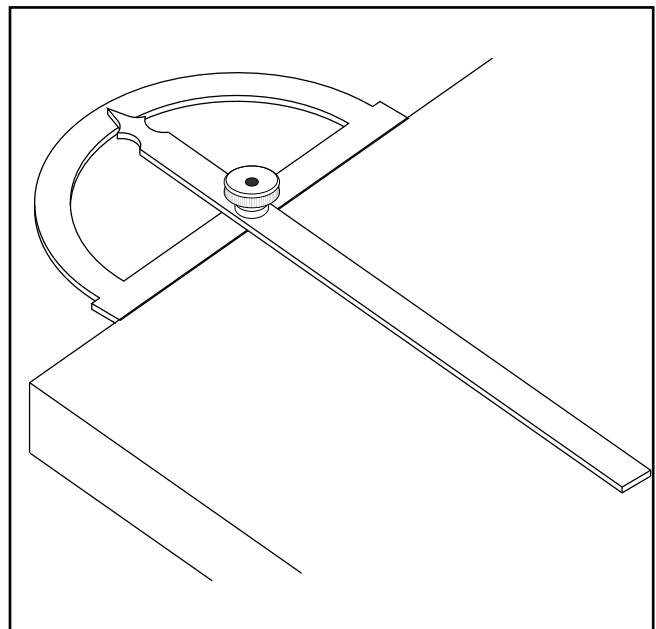

Figure 2. Protractor in use.
2. Position the straight edge of the beam firmly to the outside edge of the material to be measured as shown in **Figure 2**.